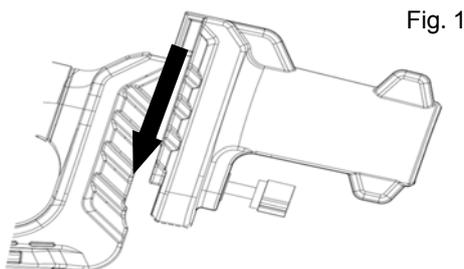

Fig. 1
- Align and insert the extension pole into the rear end of saw connection. (Fig. 1)